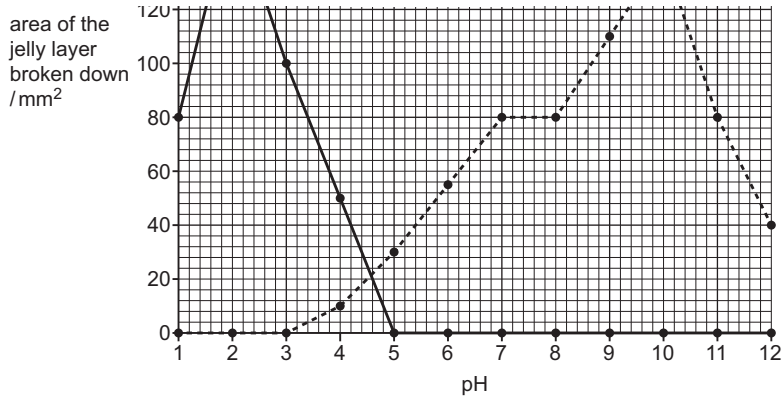

Fig. 6.2
Fig. 6.2 shows the results of the investigation.
- (a)** Using the information in Fig. 6.2, describe the results of this investigation.
(b) Explain the result for enzyme **M** at pH2 shown in Fig. 6.2.